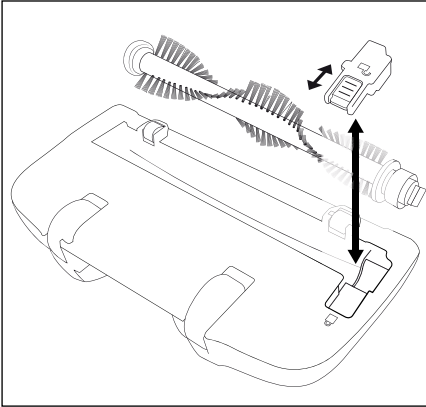

Fig. 4
- 2) Push the catch on the cover plate towards the **⤵** symbol so that you can remove the cover plate (fig. 4).
- 7) Replace the cover plate and fasten it firmly into place by pushing the catch towards the  symbol (fig. 4).